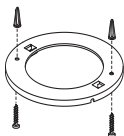
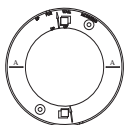

FIGURE 4
FIGURE 5
3. After selecting the proper smoke alarm location as described in Section 1, attach the mounting plate to the ceiling as shown in Figure 4. For wall mounting see Figure 5. Place mounting plate on the wall. Be sure the "UP FOR WALL MOUNTING" text and arrow are facing up. Use the screws and anchors provided to secure the mounting plate. (use 3/16" drill bit for anchors).